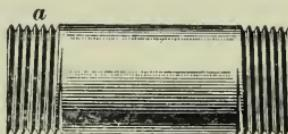

FIG. 26
**38.** Fig. 26 shows a **right-and-left short nipple**. The end *a* is threaded left hand.